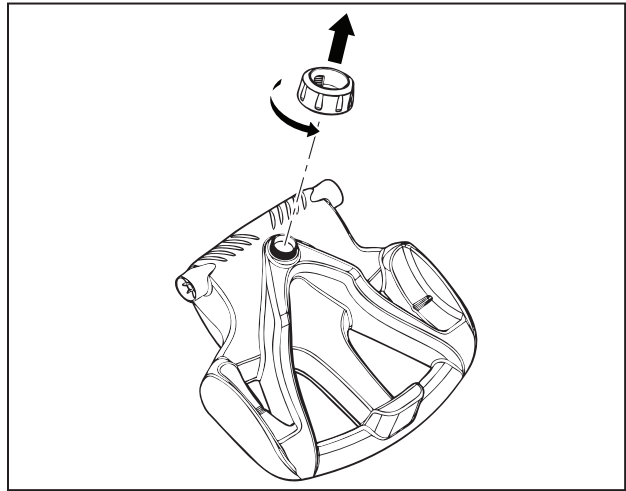

Figure 2. Remove Handnut from Base Unit
1. Unscrew the handnut from the base (Figure 2).